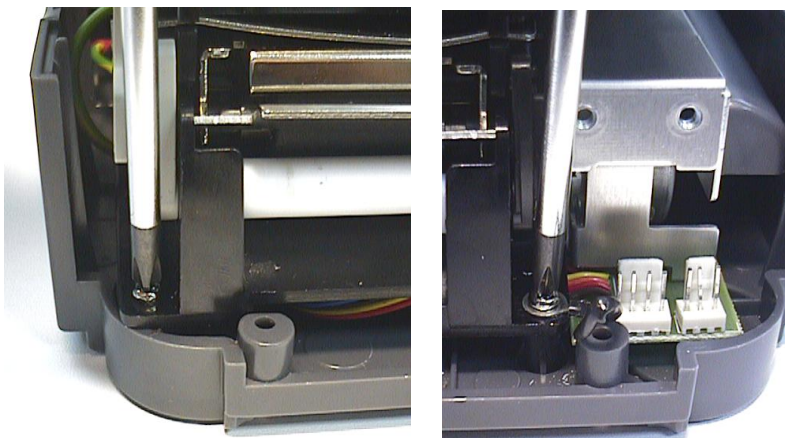

Fig. 3.17 Remove the screws in the lower left, lower right corners of the main mechanism.
8. Remove the screws in the lower left, lower right corners of the main mechanism. (Cf. Fig. 3.17)